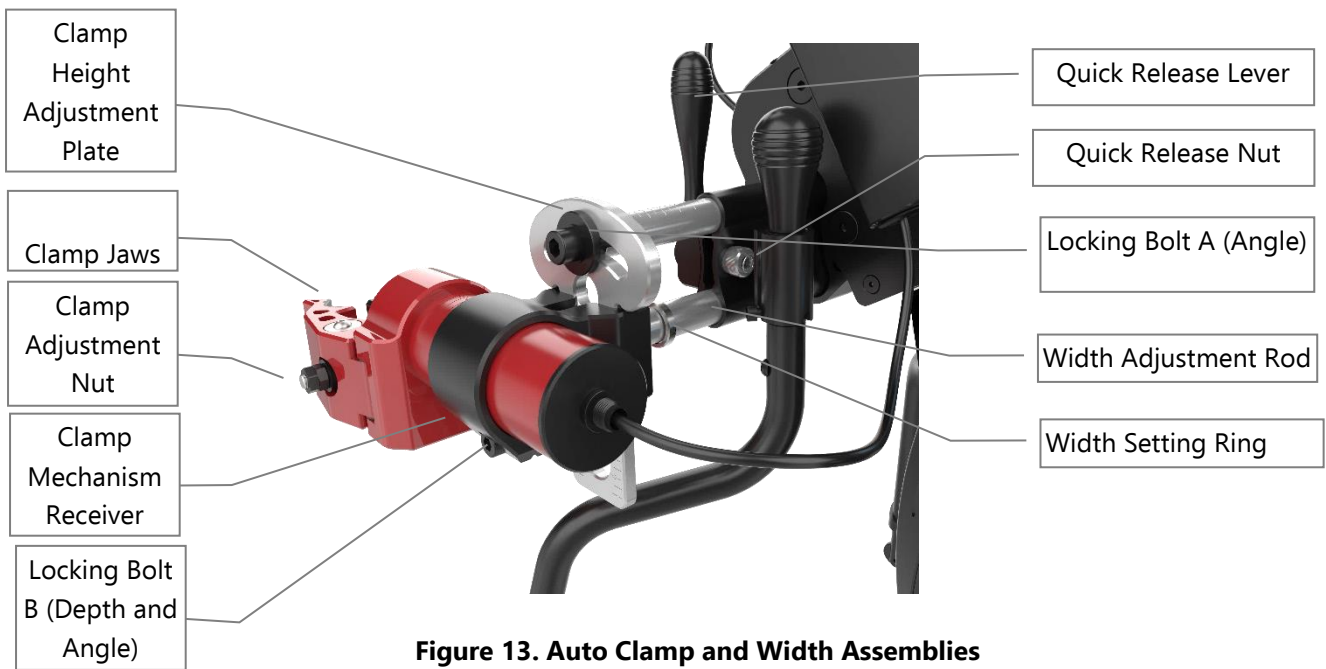

Figure 13. Auto Clamp and Width Assemblies
This configuration is available in 12", 14", 16" and 20" versions. Please check Figure 4. Model Decoder -Types and Descriptions. Please review Figure 13 for the naming of parts.
- Insert the red Auto Clamp Assembly into the Clamp Receiver with the Jaw Width Adjusting Nuts facing outwards and the rounded surface of the body facing upwards (see Figure 13).